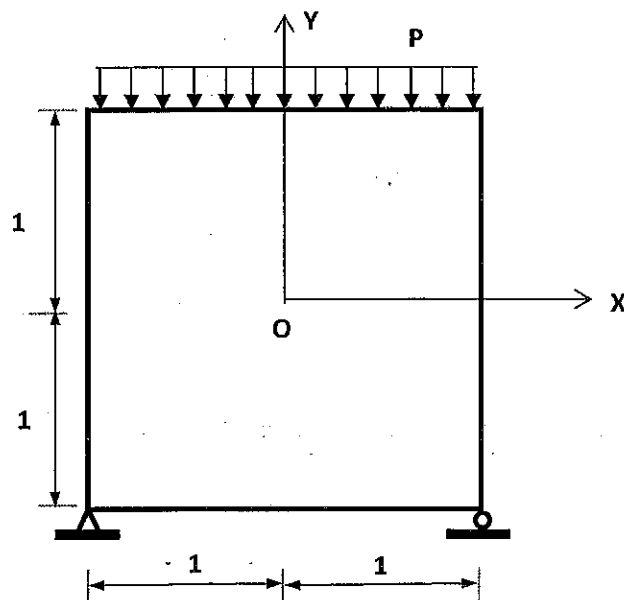

Figure Q2
- (ii) A thin square plate of side 2 units is supported at its bottom corners and is subjected to a pressure loading of intensity  $P$  as shown in Figure Q2. The Airy's stress function is proposed to solve this problem as,